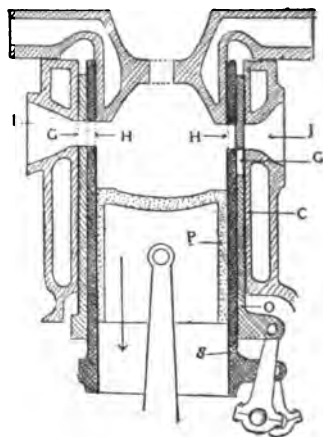
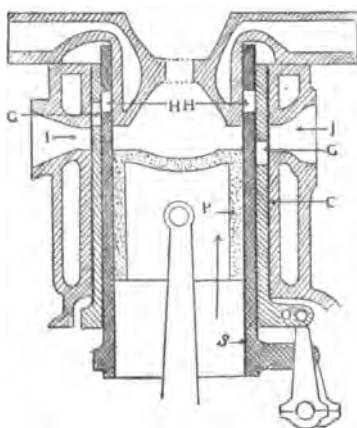
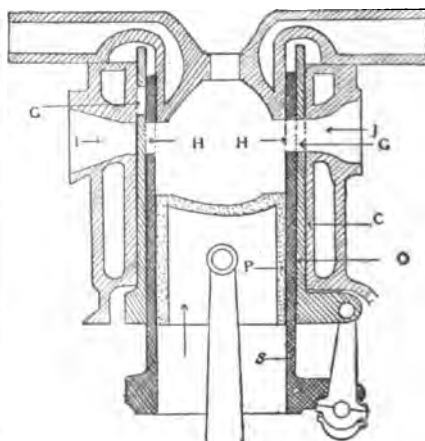

Fig. 5
Fig. 6
Fig. 7
Through the two sleeves are two ports, or openings (G, H), which slide past corresponding openings in the cylinder to allow the fresh gas to enter and the burned gases to escape. In operation the sleeve (O), sliding past the sleeve (S), brings the ports (G, H) opposite one another as well as in line with the inlet-port (I) (Fig. 5). These openings come into line on the commencement of the downward or intake stroke, and the charge of gas is drawn into the cylinder through the inlet-port thus exposed. At the commencement of the next upward stroke, or compression-stroke, the sleeves move into the position shown in Fig. 6, with the various openings (G, H, I, J) out of line and therefore closed against the escape of the gas drawn into the cylinder. The charge now is ignited, the piston driven downward, and as the lower limit of the stroke is reached the ports on the opposite side of the sleeves come into line with the exhaust opening (J) and allow the burned gases to be forced out, the two inlet-ports meanwhile being out of line, as shown in Fig. 7.